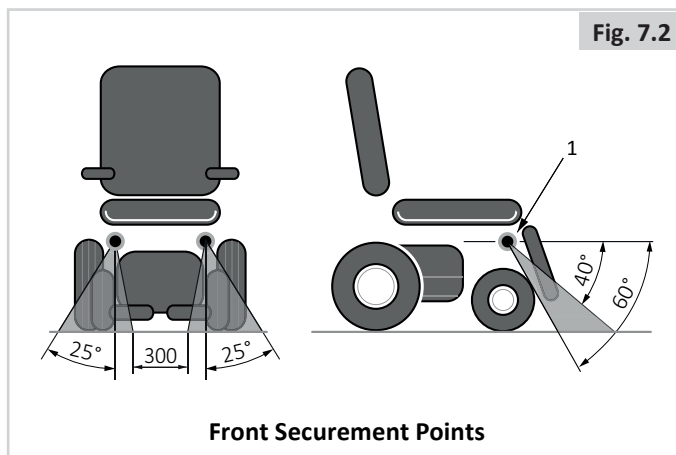

Fig. 7.2
- It is recommended to use with a 4-point strap restraint system rated for the total weight of the wheelchair including any options (Heavy Duty System) - 2 at the front, 2 at the back (Fig.7.2 & 7.3) that conforms to ISO 10542-1 (international).
Recommended angles for Tie-Down straps (Fig. 7.2 - 7.3).